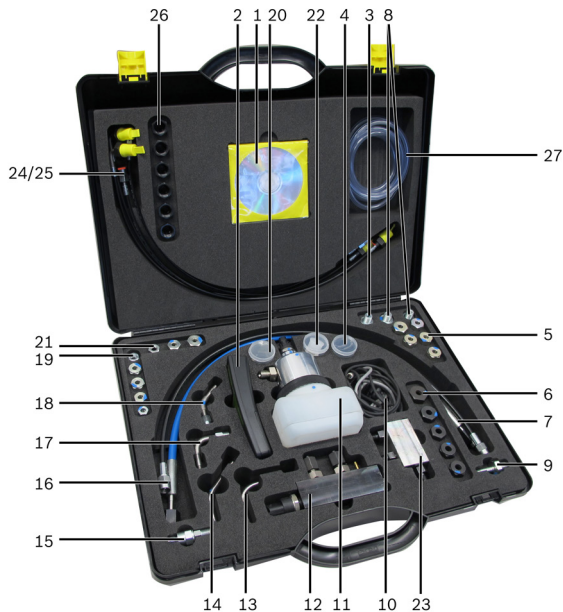

Abb. 1: Overview Diesel Set 3.1
The pressure sensor module (fig. 1, item 11) is connected directly to the high-pressure connection on common rail high-pressure pumps with a high-pressure connection by means of the black 60 MPa hose assembly.
The pressure sensor (fig. 1, item 12) is connected directly to a high-pressure connection of the vehicle rail by means of the blue 180 MPa hose assembly.